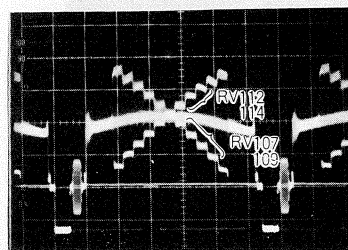

Fig. 84
4. Repeatedly turn RV107 and RV109 alternately to minimize the carrier in the 2nd ~ 6th steps from the bottom of the waveform (Refer to Fig. 84)